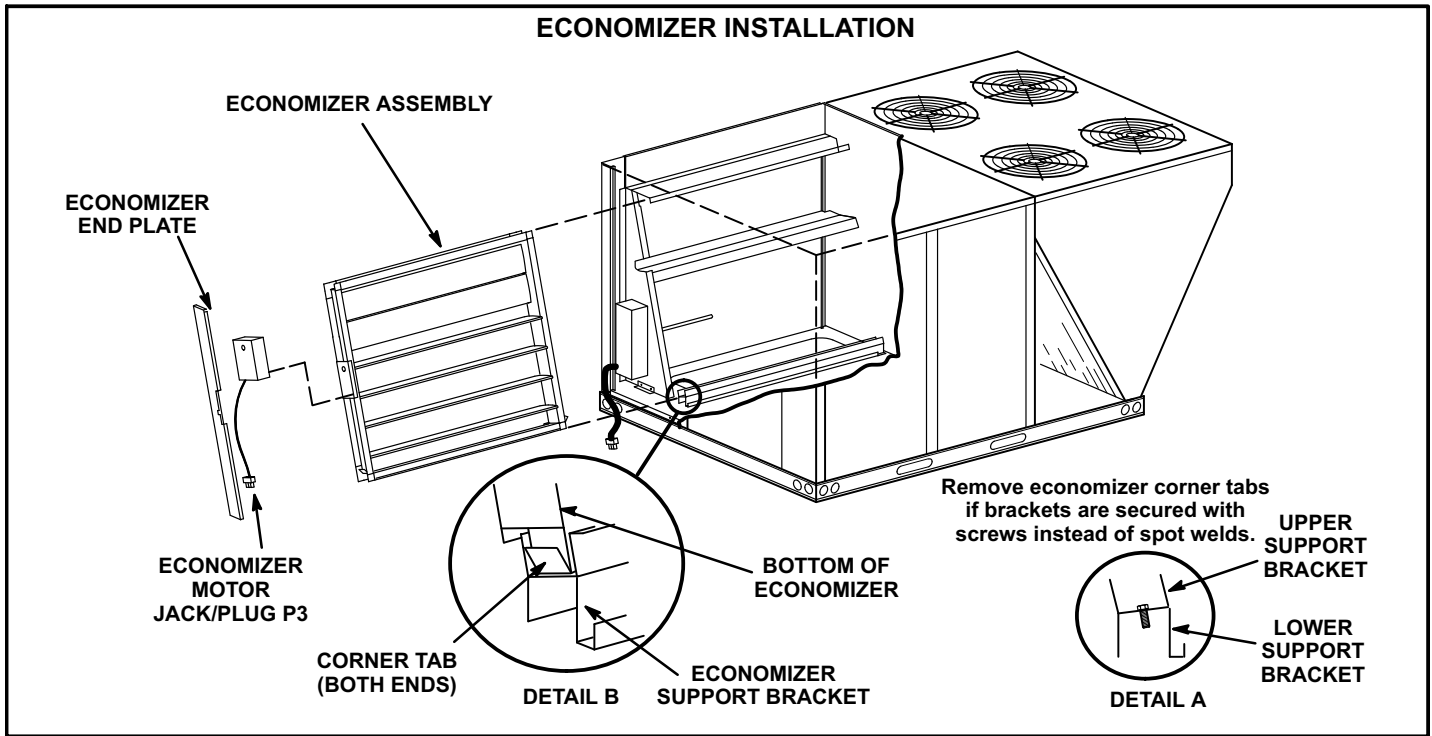

FIGURE 1
- 3- Remove corner tabs from both ends of the economizer support bracket when the upper bracket is secured to the lower bracket with screws. Leave the tabs in place when brackets are spot-welded together. See figure 1 detail A and B.
- 4- Align bottom of economizer with economizer support bracket and slide economizer into unit. See figure 1.